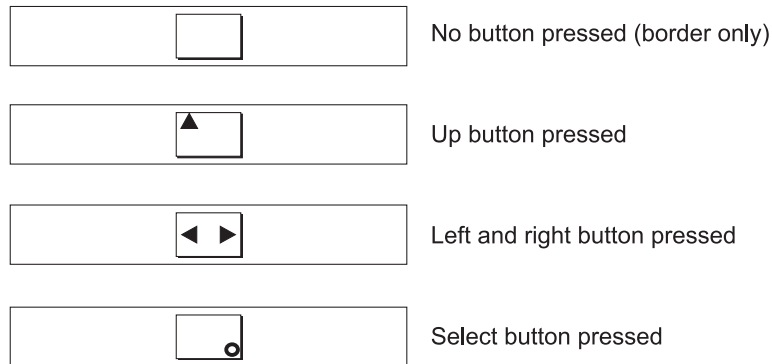

Figure 36. Front-panel display when push buttons are pressed
3. Press the up, down, left, and right buttons to verify that they are working. Figure 36 on page 36 shows four examples of what the front panel might